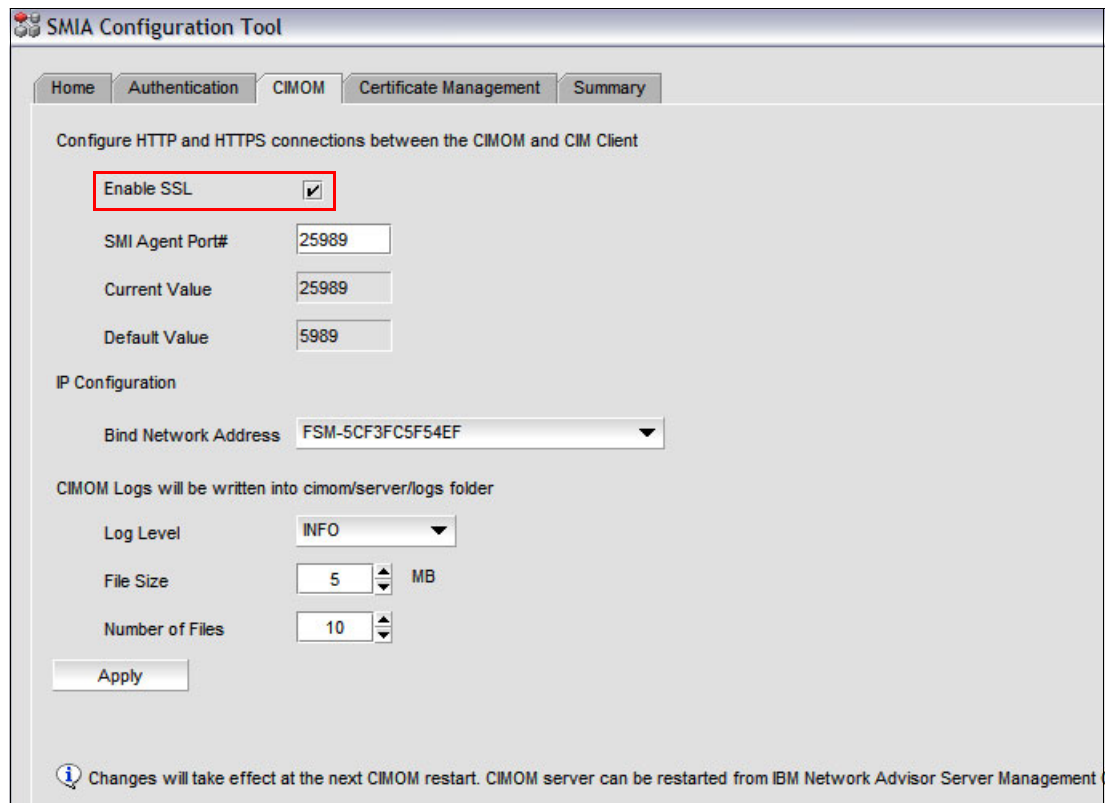

Figure 6-166 CIMOM window
11. Check **Enable SSL** to enable the SMI Agent port (25989), as shown in Figure 6-166.